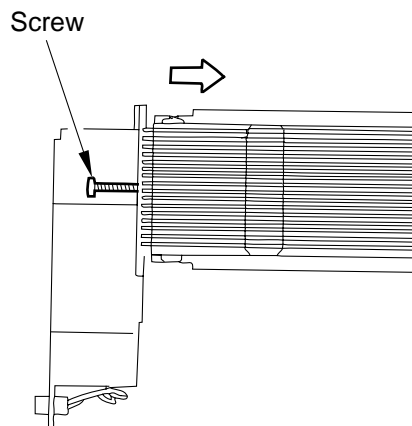

Figure 10-217
- 3) Loosen the mounting screw, and move it in the direction shown in Figure 10-217; then, fix it temporarily.